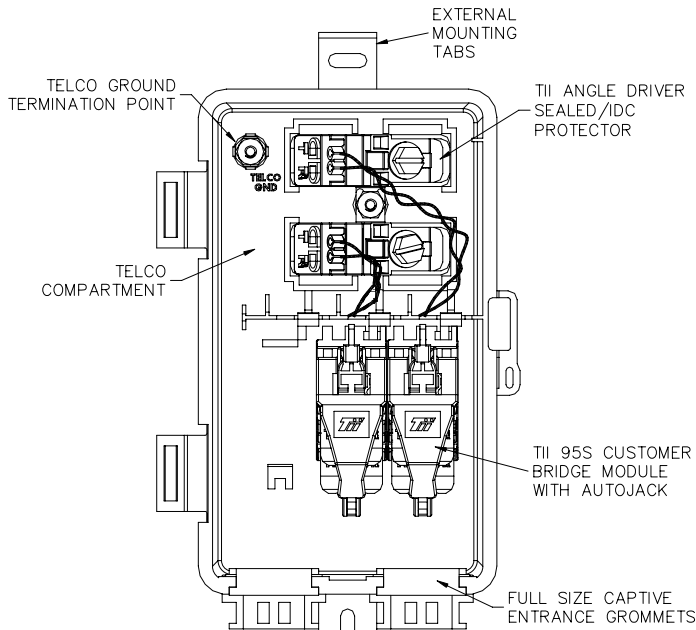

Figure 1
- 3.01 Open the front cover for easier access to the mounting tabs (Figure 1).